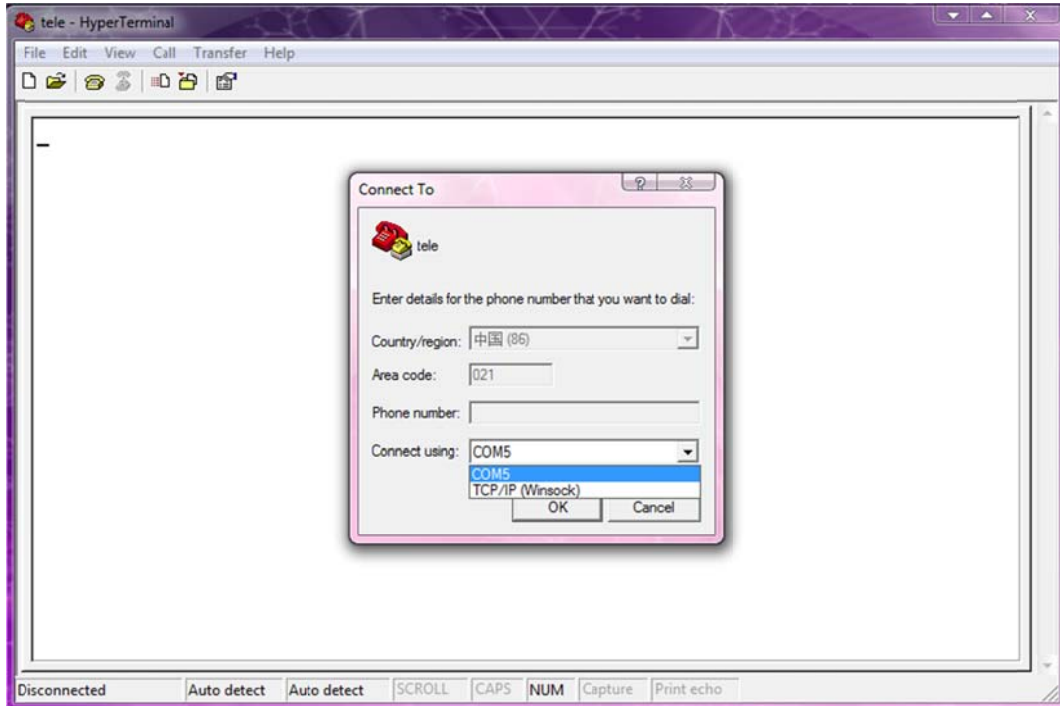

Figure 3-9, Connecting Interface
- Change the bits per second (B) to 9600 bps and Data flow (F) to none. (Note: This enables input from terminal interface). Showing in Figure3-9.